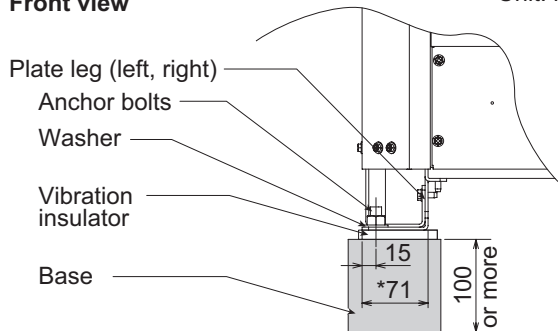

Fig. 2-21d
(3) The vibration insulator or the like should be kept secure to satisfy the width and depth of 100mm for the plate legs.
(See the dimensions marked by the asterisk at Fig. 2-21d - 2-21g.) Use a washer from the upper direction larger than the hole size for fixing the installation. The models 18 and 20 have four (4) anchor bolts respectively as same as others.